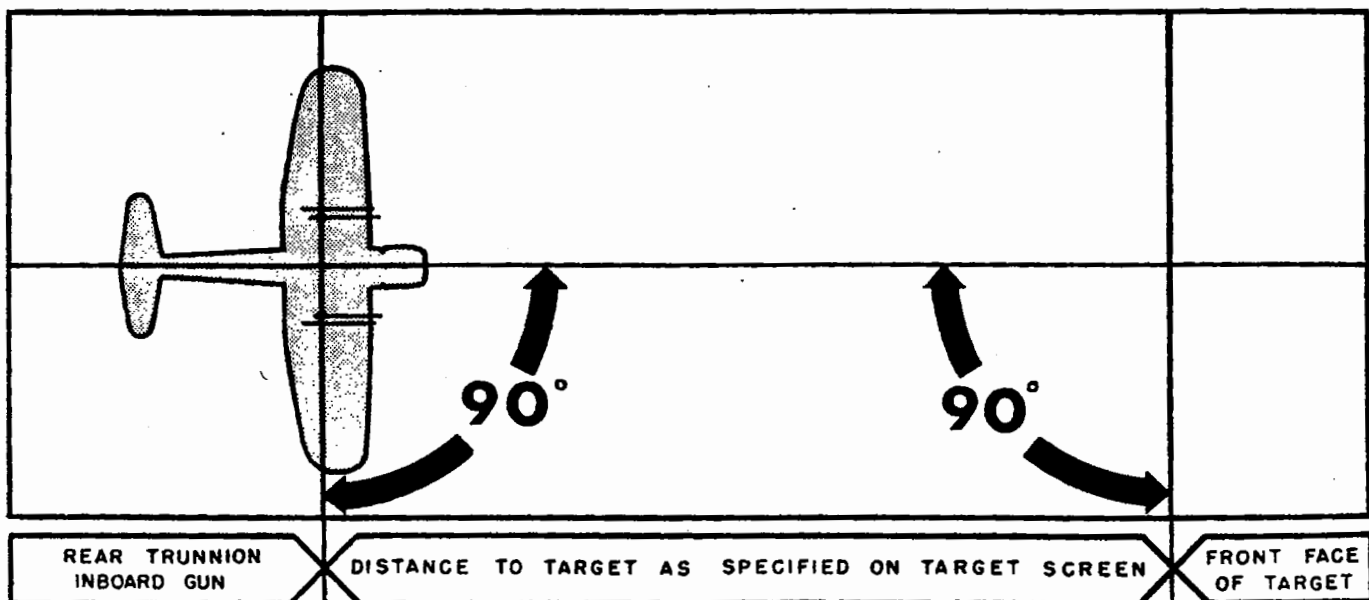

Figure 4-154. Squaring the Target Screen.
b. Align the airplane approximately with the target screen at the proper distance. Tie down tail with rope attached to tail drag link. Attach other end of rope to 600 pound weight or equivalent. Raise and secure tail to approximately thrust line level. Jack main wheels enough to ease some of the weight of the airplane off the tires; see paragraph 3-27. Shift the target screen until gun-to-target distances are correct and equal. The measurements from the airplane to target screen are made from the center of the rear mount of the inboard guns to the face of the target; see figure 4-154.